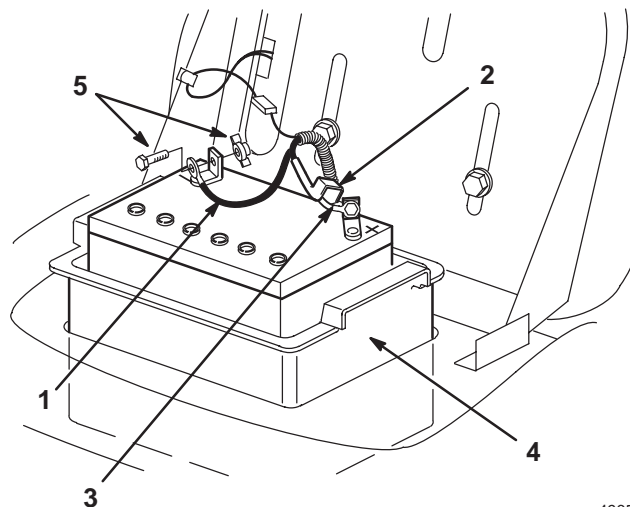

Figure 16
- Disconnect the negative (black) ground cable from the battery post (Fig. 16).
- Disconnect the positive (red) cable from the battery post (Fig. 16).
- Remove the battery box and battery from the chassis (Fig. 16).
1. Put the battery into the battery box and install it into the chassis (Fig. 16).
2. Using the bolt and the wing nut, connect the positive (red) cable to the positive (+) battery post (Fig. 16).
4. Using the bolt and wing nut, connect the negative (black) cable to the negative (–) battery post (Fig. 16).